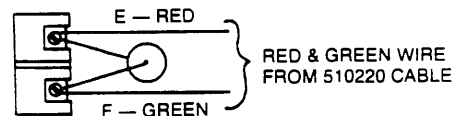

Fig. 9B
- Attach the green and red wires from the cable assembly (510220) to the two screw terminals on the green switch block (914014). Attach the 252202 47V Varistor across the same two terminals as shown in Fig. 9B.